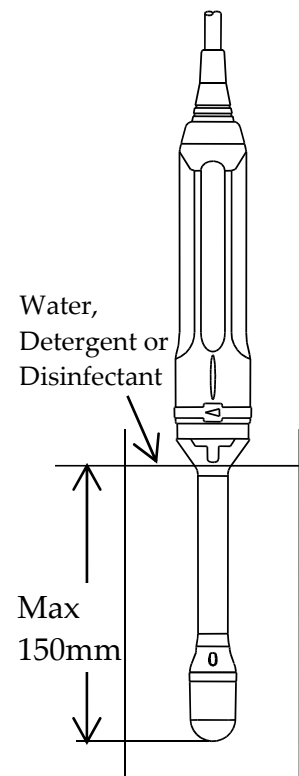

Fig. 3 Immersible area of the Probe
Limitations on reprocessing	The probe is not completely submersible. The immersible part is shown in Fig. 3. The un-immersible part should be disinfected by wipe disinfection. Sterilization is not possible for this probe.
- 2) Immerse the immersible part of the probe without connector into the diluted detergent solution (see Fig. 3). Wipe the immersible part of the probe under the surface of the detergent solution with a soft cloth to remove all visible soil. Be sure that all grooves of the probe are implemented during the cleaning process.
- 5) Rinse the probe with running tap water for 1 minute. (alternatively: immerse the immersible part of the probe in a tray filled with deionized water/tap water (see Fig. 3) for 5 min.)
- 3) Immerse the immersible part of the probe into the disinfectant (see Fig. 3). Set a clock to insure the recommended contact time which is 5 minutes.
- 4) Rinse the immersible part of the probe with deionized water for 1 minute. (alternatively: immerse the immersible part of the probe in a tray filled with deionized water (see Fig. 3) for 5 min.)